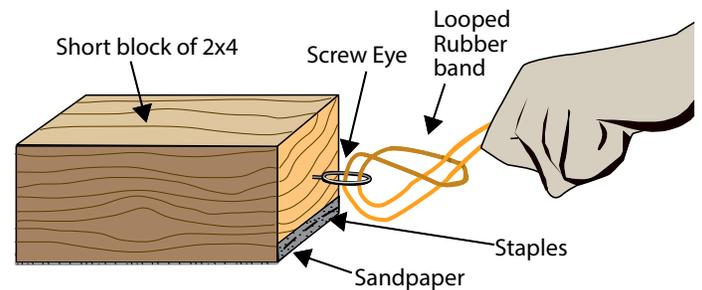

Figure 2: Block A setup with looped rubber band and sandpaper.
- 2) Place the sandpaper over the bottom of the block and fold the long edges up on to the ends of the block. Staple the sandpaper to the edges (Figure 2).
- 3) Screw one 12x1-3/16 screw eye into the cut end of the block about 1/2 inch from the base (Figure 2).
NOTE: Slowly pull the measuring tape parallel to the surface of the sanding belt (Figure 2). The block should stick in place initially and the rubber band will stretch. When a threshold is reached, the block will slip forward as the potential energy stored in the rubber band is suddenly converted to kinetic energy. Once the block stops, the stick slip process begins again.